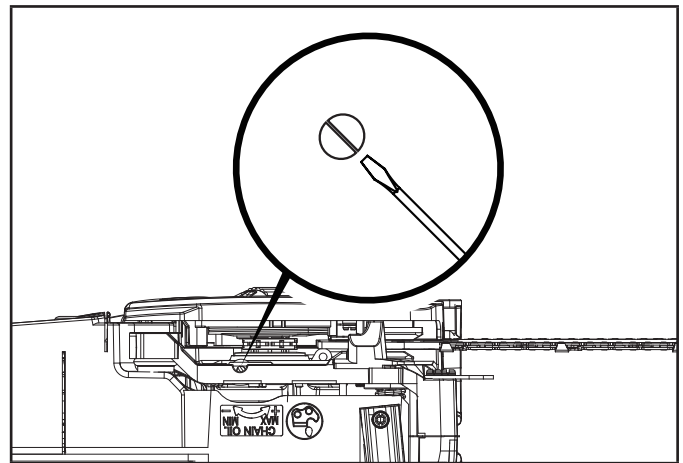

Figure 23
- To increase the oil flow, turn the automatic oiler adjustment screw counter clockwise with a flat-head screwdriver (Fig. 23).
- To decrease the oil flow, turn the automatic oiler adjustment screw clockwise with a flat-head screwdriver (Fig. 23).